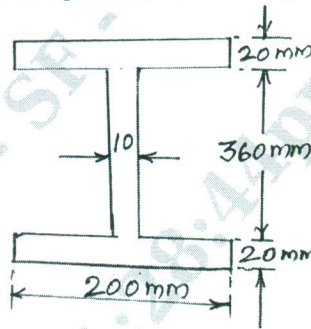

Fig.Q6(a)
- 6 a. A simply supported beam of 'I' section carries a uniformly distributed load of 40 kN/m run on entire span of beam of 10 m. If 'I' section is having dimensions as shown in Fig.Q6(a), determine the maximum stress developed due to bending.